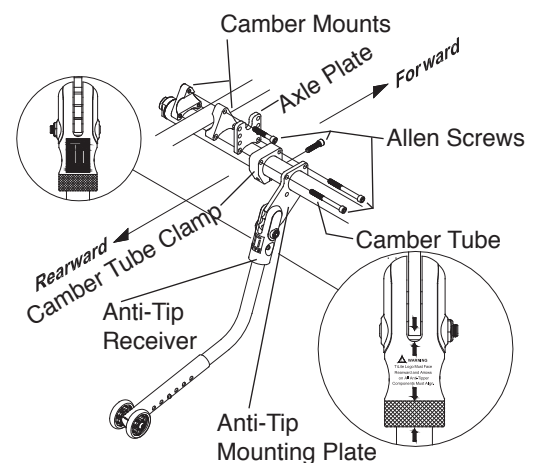

Figure 10
⚠️ WARNING: Do not disassemble the anti-tip mounting assembly (see Figure 10). *If you ignore this warning, you may fall, tip over or lose control of the wheelchair and seriously injure yourself or others or damage the wheelchair.*
2. Remove the Allen Screws that secure the camber tube clamps to the axle plates and camber mounts. See Figure 10.
6. Reattach the camber tube clamps and the anti-tip mounting plates to the axle plates and camber mounts using the Allen Screws as shown in Figure 10.
7. **⚠ WARNING: Make sure that the TiLite logo is visible on the rearward side of the user-friendly anti-tip receivers as shown in Figure 10 and that the white arrows are all aligned on the opposite (forward) side of the anti-tip components as shown in Figure 10. If you ignore this warning, you may fall, tip over or lose control of the wheelchair and seriously injure yourself or others or damage the wheelchair.**